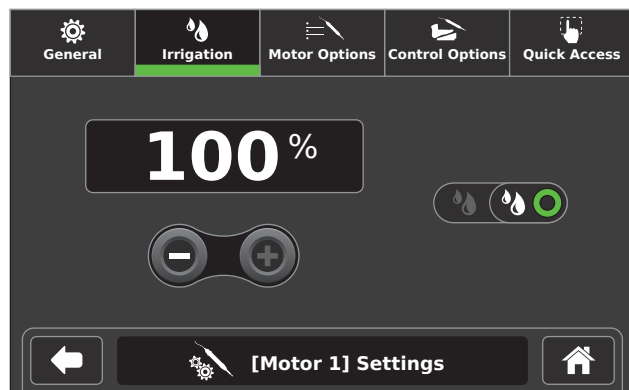

Figure 22 – Irrigation Screen
- Adjust settings as necessary (Figure 22).